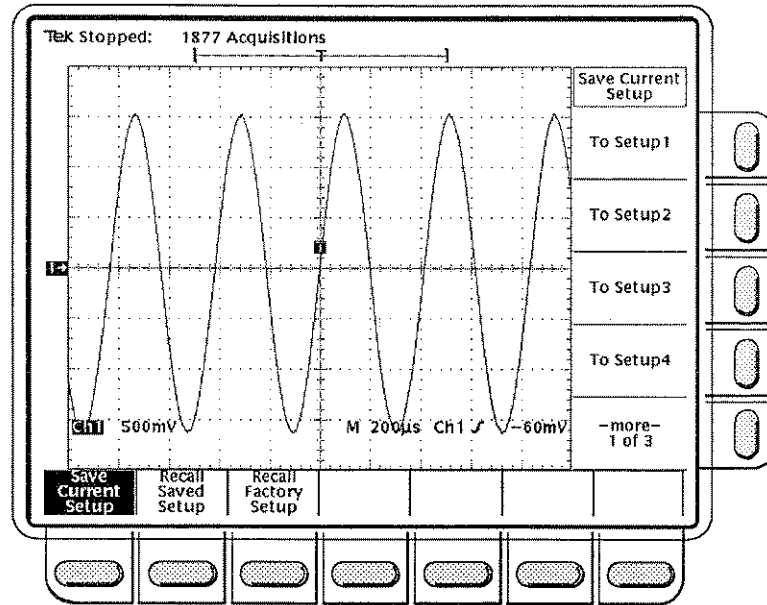

Figure 3-58: Save/Recall Setup Menu
- Step 1:** Press the save/recall **SETUP** button to call up the Save/Recall Setup menu (Figure 3-58).